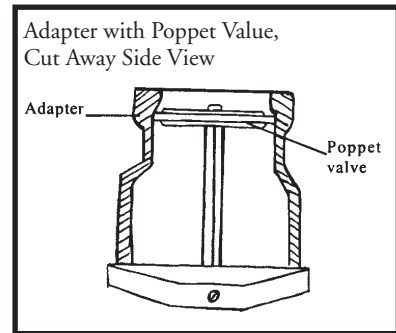

Figure 11, Fill Tube
b. The adapter on fill tube and vapor recovery tube does not turn (for non-swivel adapters only). (Figure 11)